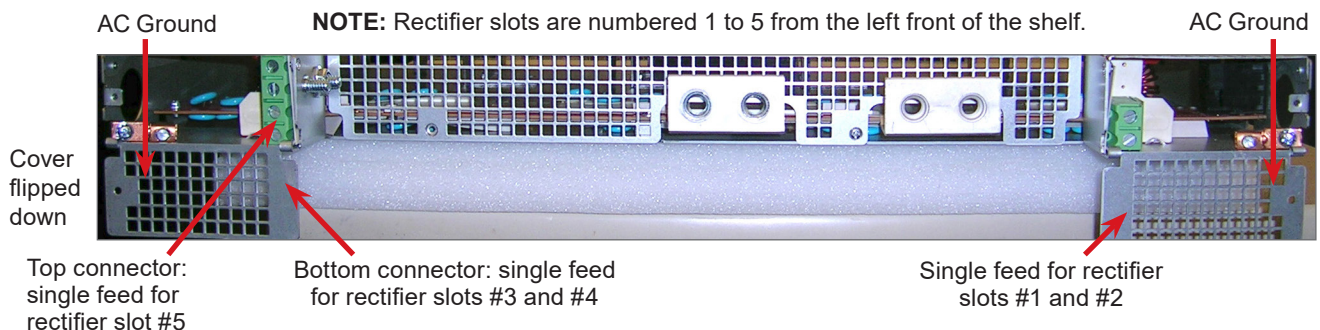

Figure 22 — AC Input and Ground for 23" Shelf
2. At the rear of the shelf, remove screw and flip the cover down (two places) to access the AC input terminal blocks: each terminal pair corresponds to either two rectifiers or a single rectifier as shown in Figure 22.